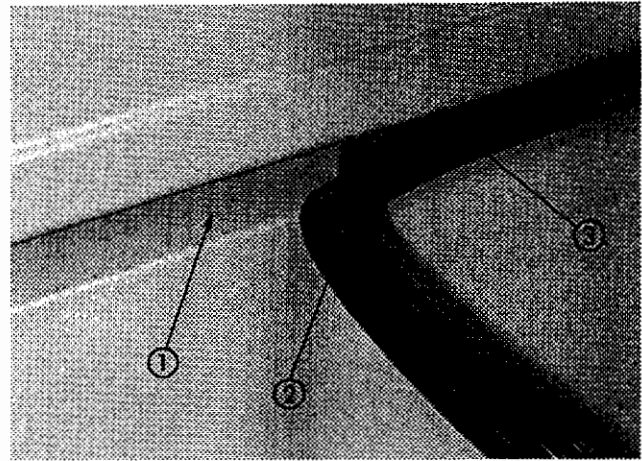

Figure 8-1
3. Replace the new gasket into the groove ①. The wider side of the gasket ② goes into the groove, with the narrower side ③ facing out (see Figure 8-1).